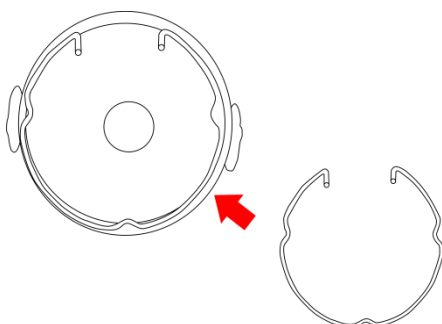

Fig. 07
- 06) Insert the lamp and replace the fixation ring (Fig.07).